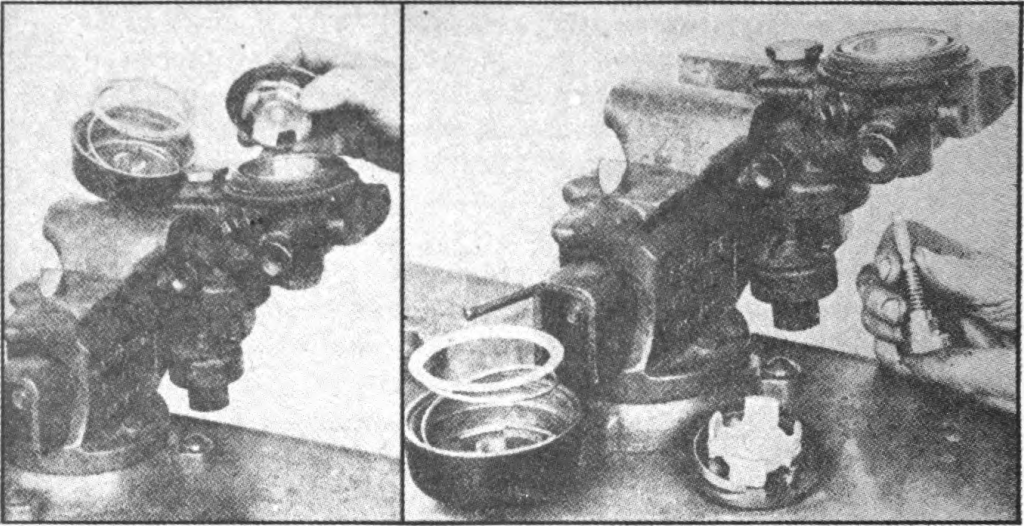

FIGURE 38.
2. Lift out the diaphragm guide ring (Figure 38), remove cotter key, nut and washer holding the diaphragm to the guide. Lift out the diaphragm and replace.